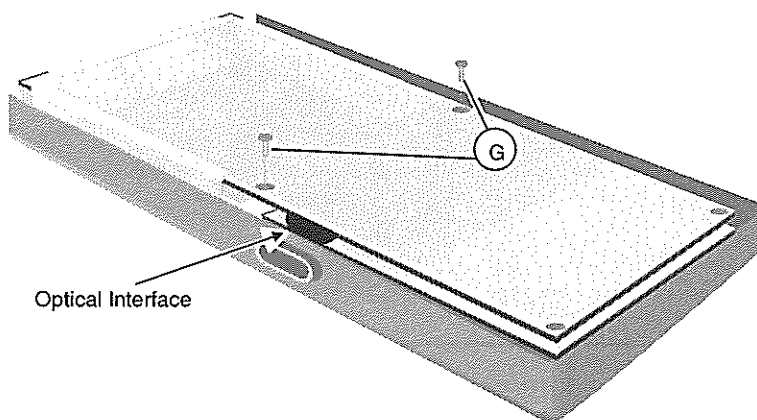

Figure 6-3. Removing the Display PCA
6. Loosen the two screws "G" holding the top screening and the Display PCA to the bottom cover. See Figure 6-3.
2. Remove the Display PCA from the top cover according to Fig. 6-3.